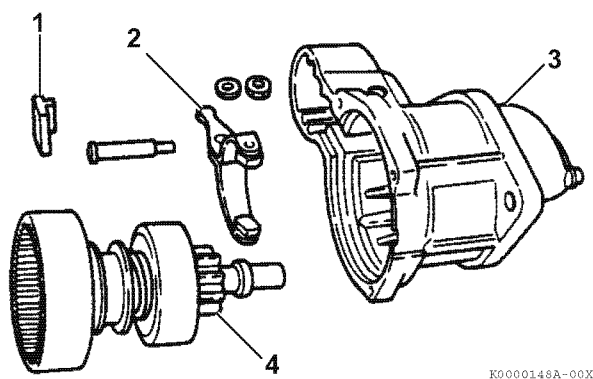

Figure 10-8
10. Remove the intermediate housing, gear and pinion shaft assembly (Figure 10-8, (4)) from the pinion housing (Figure 10-8, (3)). Disengage from the shift lever as it is removed.
11. Remove the shift lever (Figure 10-8, (2)), pin and spacer (Figure 10-8, (1)).